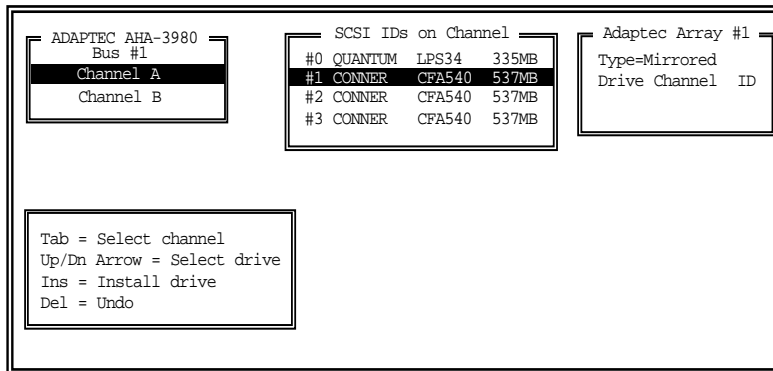

Figure 10-28. Selecting Drives for an Array
- 6 Type the number of drives (excluding spares) you want in the array, and press **Enter**. The utility scans the host adapter for drives, then displays a screen such as that shown in Figure 10-28.
The Administrator Utility scans for drives on the host adapter used for that array, then displays the screen shown in Figure 10-28.